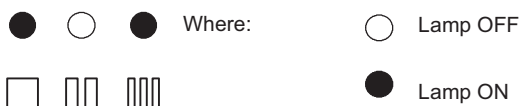

Figure 10.21
- 4 Press the reset button D repeatedly (4 times) until the lamps F give the indication as in Figure 10.21 (setting the D.H.W. flowmeter mode operation).